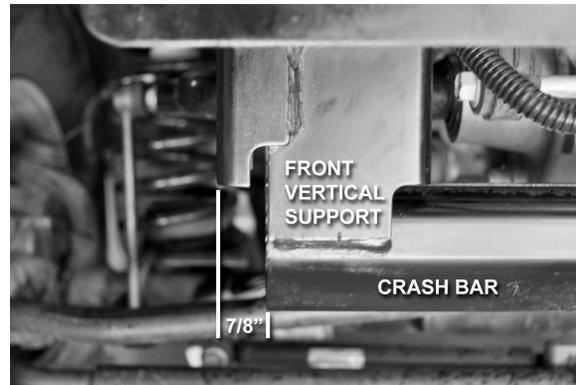

FIGURE 1
4. **If the choice is made** to KEEP the crash bar, the lower corner of the crash bar at either end must be trimmed for proper fitment of the Brawler Lite Skid Plate. Use an abrasive cut-off wheel or other suitable cutting tool to trim off the end of the crash bar. On most year models, your cut should be adjacent to the outside edge of the front vertical support, or 7/8" inboard from the outside edge of the outermost frame bracket as shown in Figure 1. Due to variances in different year models, your JK may require more or less trimming than shown. So some test-fitting and further trimming of the crash bar may be required.